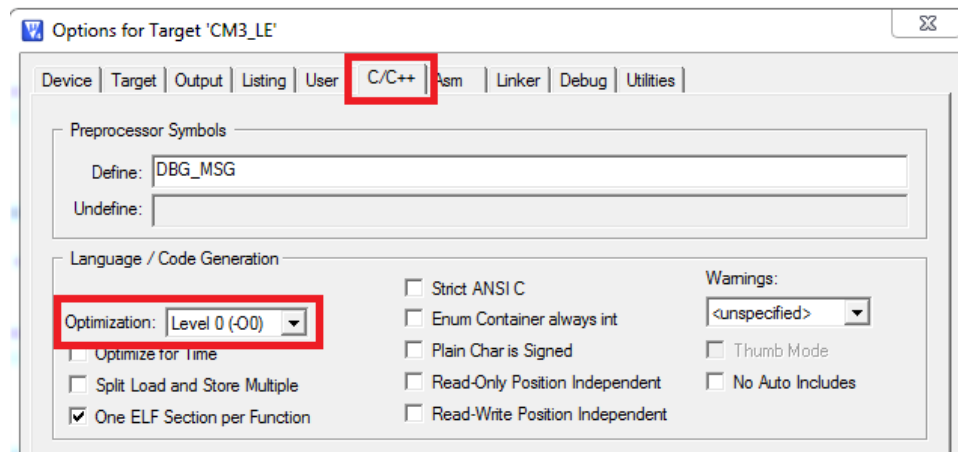

Figure 2.18: RTX Library Project Optimization Level Setting
5. Click the Target Option button and activate the C/C++ tab. Set the optimization to Level 0 (`-O0`) in the Language / Code Generation section (see Figure 2.18). Turning off the compiler optimization will allow the debugger to provide useful debugging information during the development.